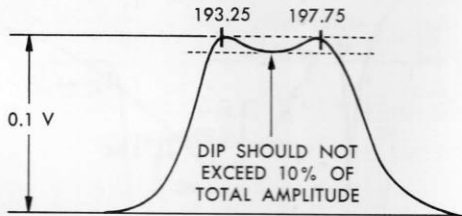

Figure 9—Channel 10 RF Response Curve.
7. Reset bias voltage to 2.5 volts. Reconnect Oscilloscope to test point B. Retune receiver and Sweep Generator for channel 2. Spread or squeeze antenna coil for maximum gain in keeping with the shape of the response curve of Figure 9.